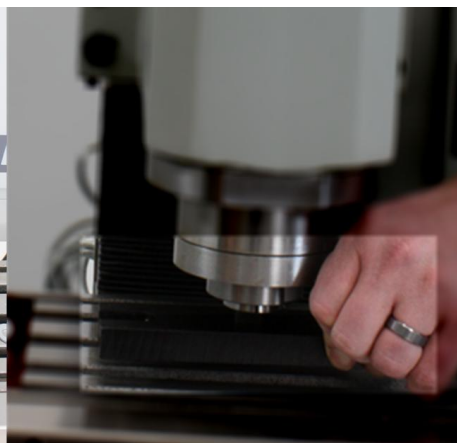

Figure 4
- d) Partially lower the spindle over the fixture. It might be useful to manually lift the fixture into the spindle/collet (See Fig. 4), then slowly lower the spindle and fixture down to the mill bed until the collet is about half way down on the fixture.